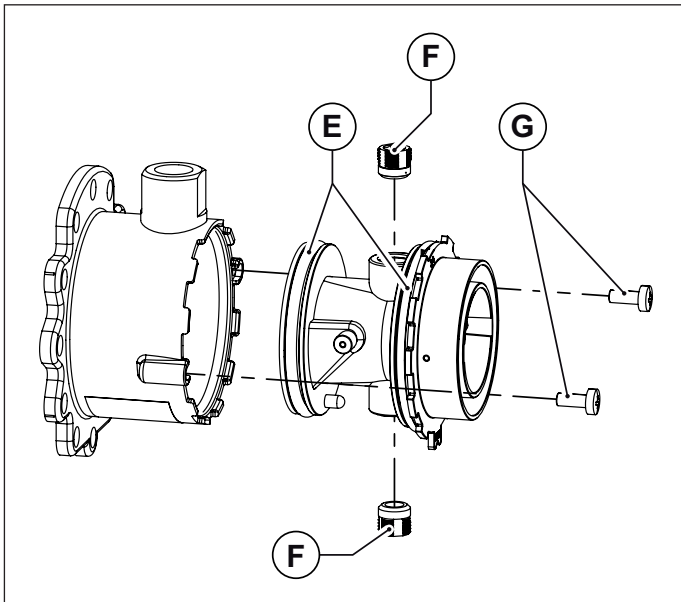

Fig. 28 Mixer plastic body
- Loosen the two retaining screws, and slide out mixer plastic body (see Fig. 28 Mixer plastic body).
- Using a 6 mm Allen wrench, loosen the two mixer nozzles (see Fig. 28 Mixer plastic body).
- To refit the plastic body (Venturi), insert it inside mixer and secure it in place with the retaining screws. Take care not to damage the O-rings assembled on plastic body ends (see Fig. 28 Mixer plastic body) and to respect the assembling direction (see Fig. 29 Assembling direction).
- Refit the reassembled mixer onto the fan with the socket head screws, making sure to insert the O-ring between mixer and fan (see Fig. 28 Mixer plastic body).